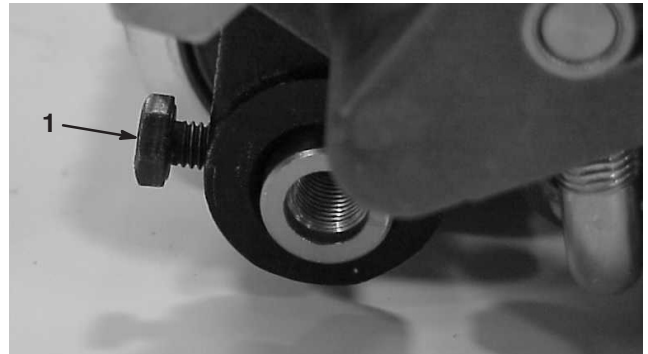

Figure 30
3. Loosen the bolt securing the roller shaft to the height-of-cut arm (Fig. 30).